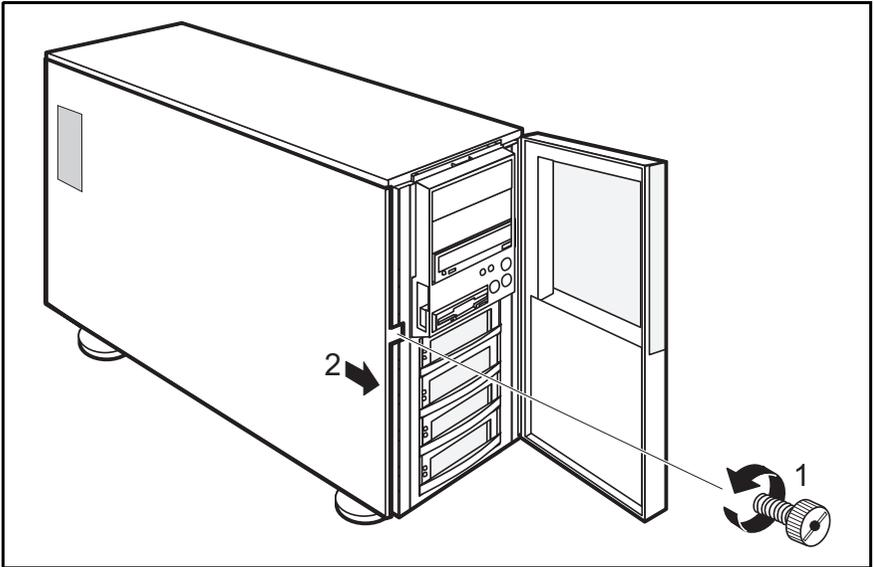

Figure 39: Unscrewing the left cover
- ▶ Loosen the screw marked (1) in figure 39.